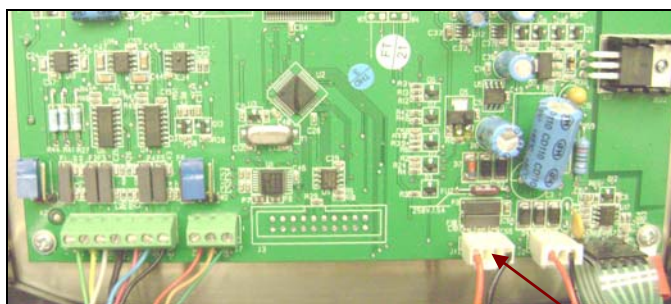

Figure 3-1. Main PCB's AC power supply jack.
3. Using a DVM, measure power from Main PCB's AC power supply jack. (See Figure 3-1.) It should read between 6.75 and 6.9 volts dc with power off and 7.2 - 7.5 volts dc with power on.